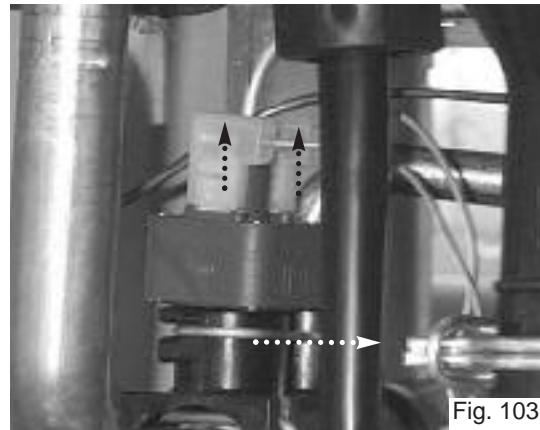

Fig. 103
2. Pull off the connections. Then remove the pressure switch by releasing its securing clip (see Fig. 103).